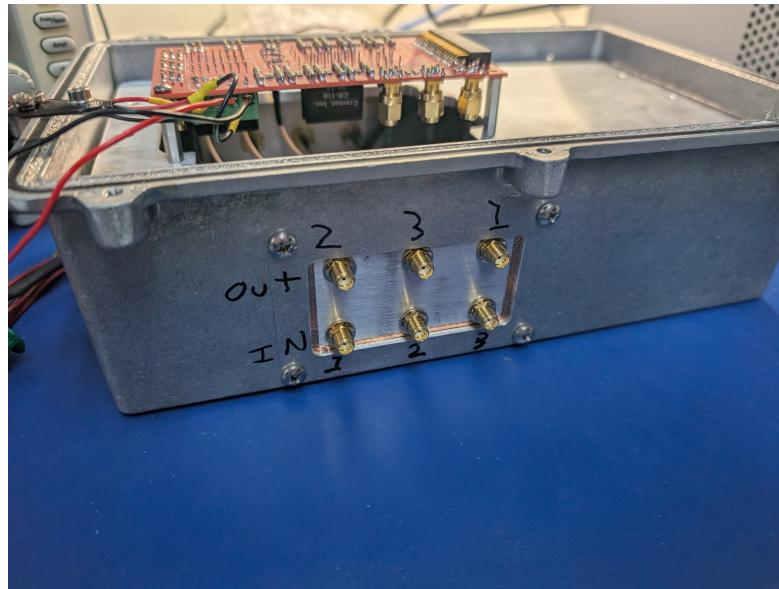

Figure 4: Input and Output Side View of enclosure
The SMA connectors supply test signals on the exterior of the enclosure as seen in Figure 4.
The SMA connectors read out the output signals on the exterior of the enclosure as seen in Figure 4.
2. Connect an SMA connector from the output of a function generator to the input of the channel desired to be tested. The input channels are the bottom row of SMA connections on the side of the enclosure, as pictured in Figure 4.
5. Connect an SMA connector from an oscilloscope to the output of the channel being tested. The test point connections can be found on the side of the enclosure, as seen in Figure 4. At the same scaling